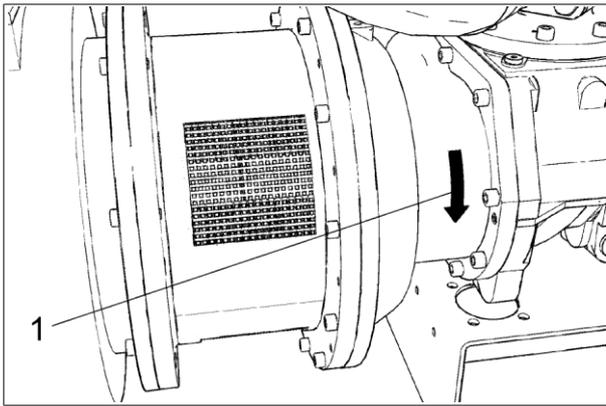
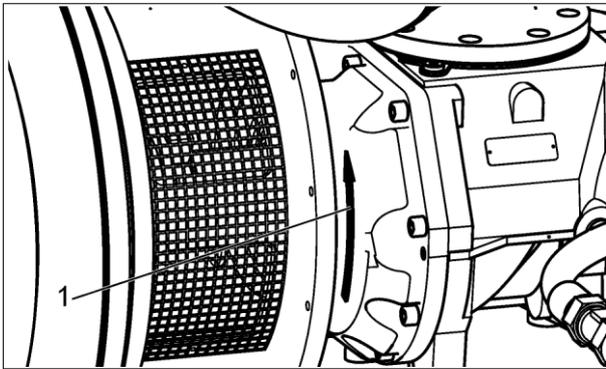
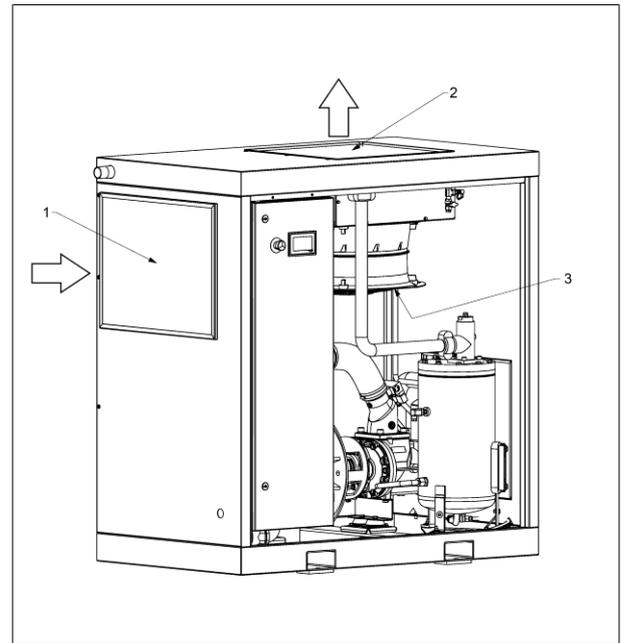

Fig. 15a
Fig. 15b
Fig. 15c
- Temporarily remove the coupling cover plate in order to check the direction of rotation. See (-1- Fig. 15a) for the prescribed direction of rotation of the drive motor of the geared compressor. See (-1- Fig. 15b) for the prescribed direction of rotation of the drive motor of the direct drive compressor. For the prescribed direction of rotation of the fan, see direction of rotation arrow sticker near the fan (-3- Fig. 15c).